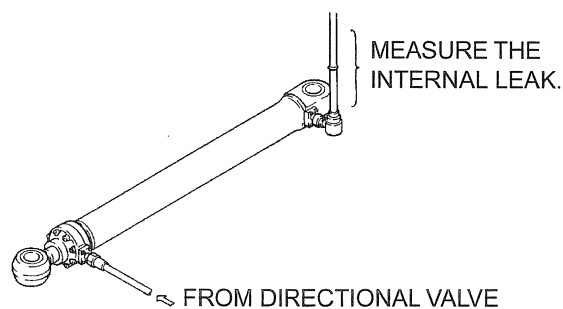

Fig. 32-60 Internal leak test
1) Apply a test pressure to the retracting and extending sides of the cylinder for three minutes independently, and check that the rod section and the welds have external leaks and permanent deformation. For an internal leak test, connect the cylinder with a test unit as shown in Fig. 32-60.